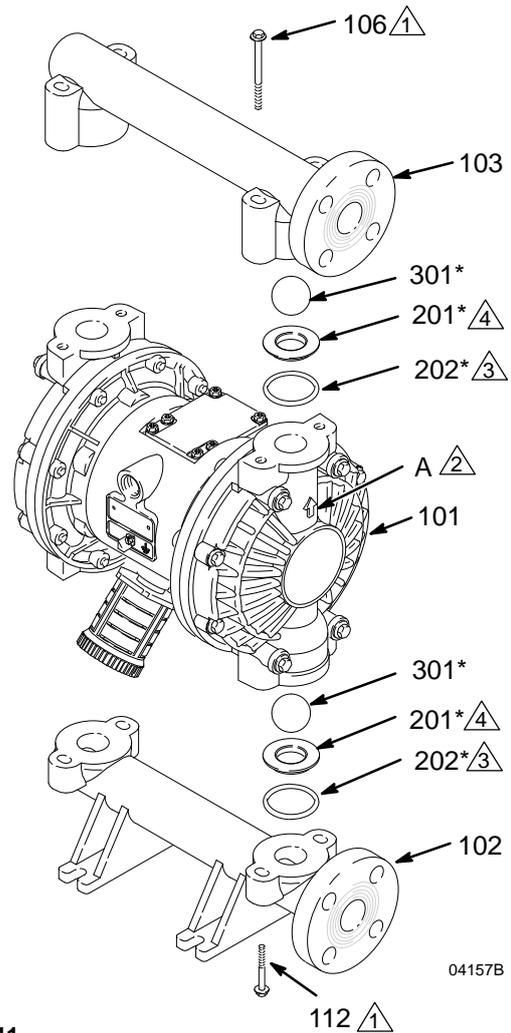

Fig. 11
3. Using a 10 mm socket wrench, remove the four bolts (106) holding the outlet manifold (103) to the fluid covers (101). See Fig. 11.
4. Remove the seats (201), balls (301), and o-rings (202) from the manifold.
2. Reassemble in the reverse order, following all notes in Fig. 11. Assemble the ball checks **exactly** as shown. The arrows (A) on the fluid covers (101) **must** point toward the outlet manifold (103).
-  2 Arrow (A) must point toward outlet manifold (103).
-  4 Beveled seating surface must face ball (301).